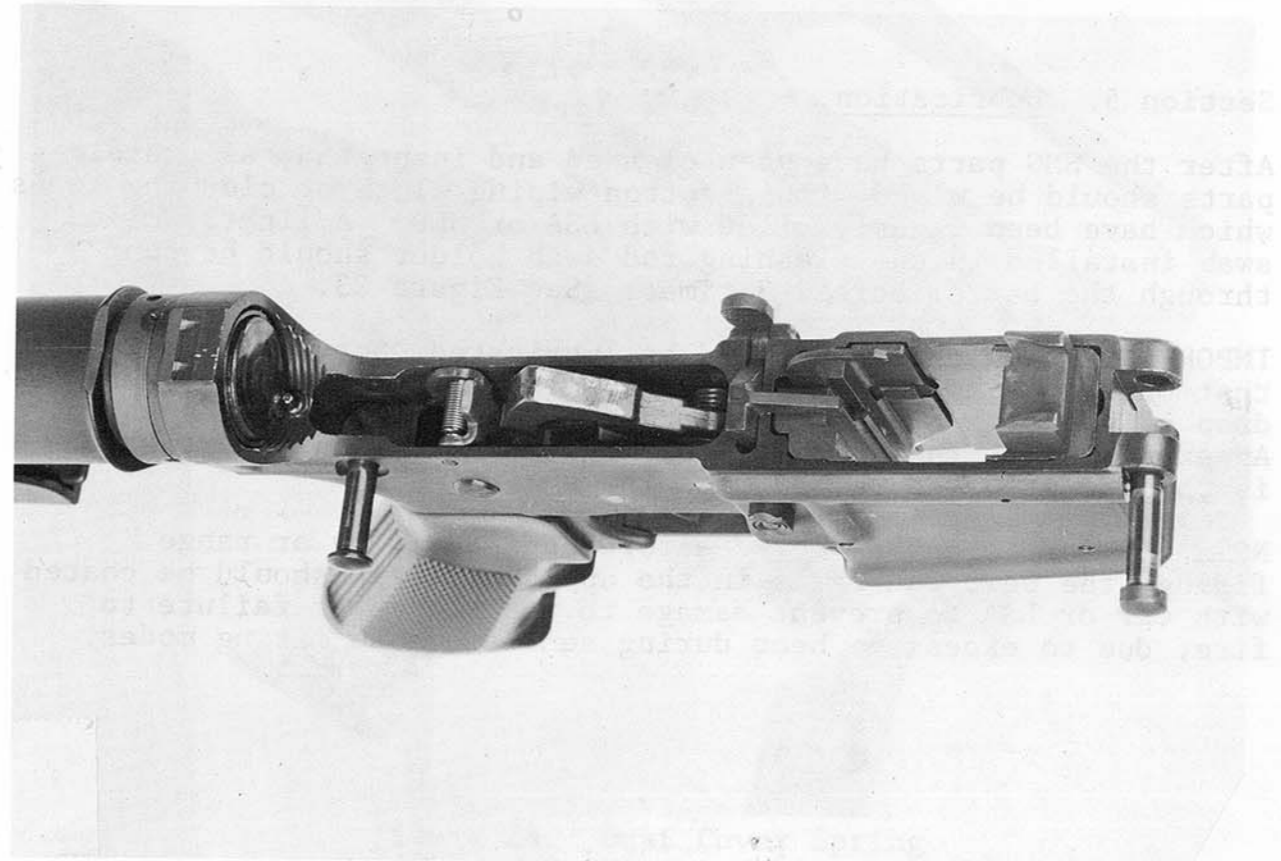

Figure 22. Lower Receiver Hammer assembly, ejector and showing magazine well
- D. Wipe off hammer assembly, ejector and magazine well in the lower receiver. (Figure 22)